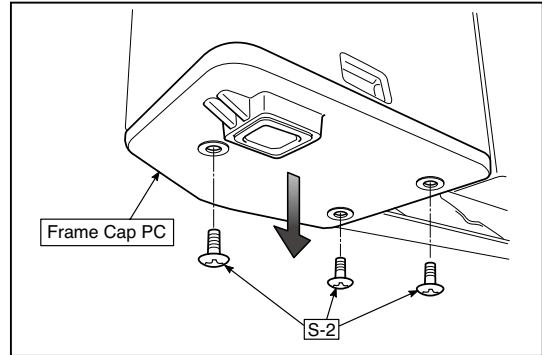

Fig.6
2) Remove the Frame Cap PC. (See Fig. 6.)
- 1.Remove the “S-2” screws shown in the figure 6 and then remove the Frame Cap PC.